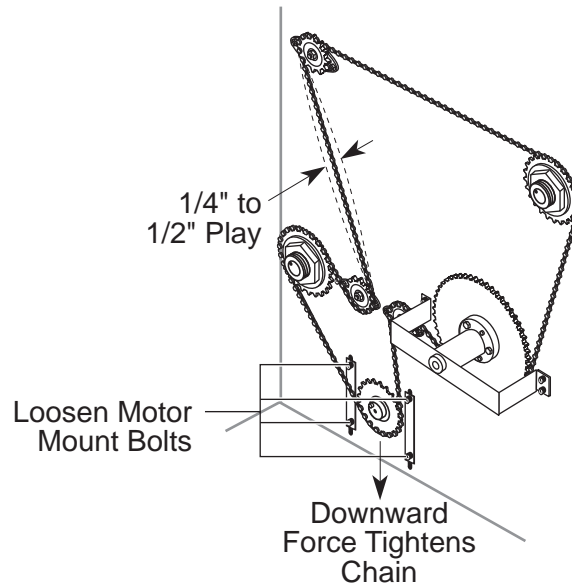

Figure 4-6: Adjusting the Chain Tension
- Loosen all four motor mount bolts using the  $\frac{3}{16}$ " hex wrench as shown in Figure 4-6. The motor should just move freely within the slots.